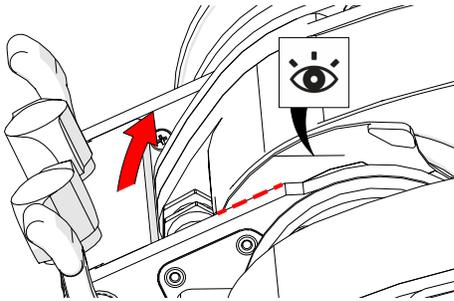

Fig. 14 - Align swivel mount with horizontal etched line
3. Adjust the right drive module's swivel mount to align slightly below the horizontal etched line (Fig. 14).